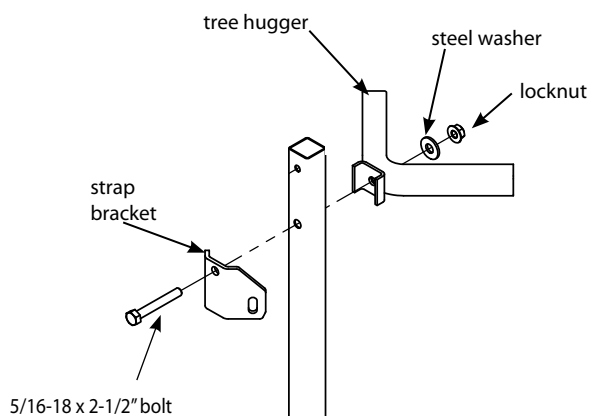

Figure 1
1. Attach (1) tree hugger (SS24) and strap bracket to each factory assembled stick section using (1) provided 5/16-18 x 2-1/2" bolt, steel washer and locknut on each section. **SEE FIGURE 1. Tighten securely. Do not over tighten or crush tubing when tightening!**